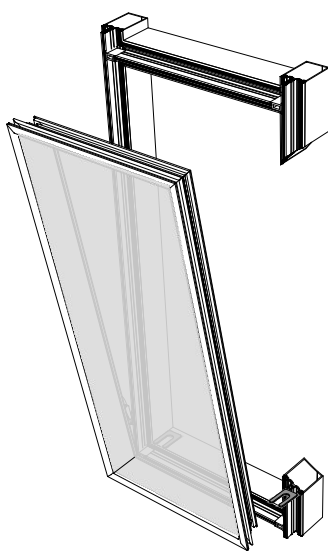

FIG. 3
- Push the vent in tight to the primary gasket seal. See **FIG. 3**